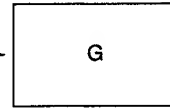
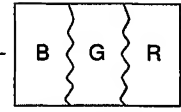

Fig.3-3
Fig.3-4
6. Bring the deflection yoke gradually forward and adjust the deflection yoke so that R and B on both sides of the screen will be green. (Fig.3-2 n Fig. 3-3)
7. If the deflection yoke comes forward too much, the pattern shown in Fig.3-4 will appear. If so, move the deflection yoke backward. (Fig.3-4 n Fig.3-3)